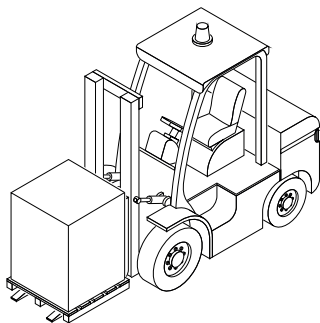

Fig. 5a
- Handle the packaged machine only with forklift truck or pallet trucks with forks (Fig. 5a).